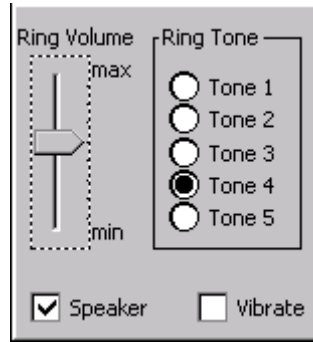

Figure 12. The Alert Screen
4. Press the **Send** key. The **Alert** screen displays (see Figure 12).